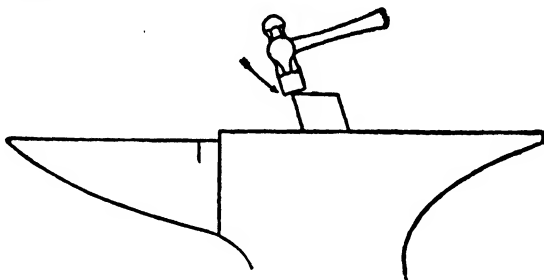

FIG. 16
2. If the stock tends to become diamond shaped, tilt it on the long diagonal and deliver drawing blows so that the stock is drawn back square in section. If the stock is sufficiently large, place it in the corner between the chipping block and the face of the anvil while delivering drawing blows as above directed. Fig 16.